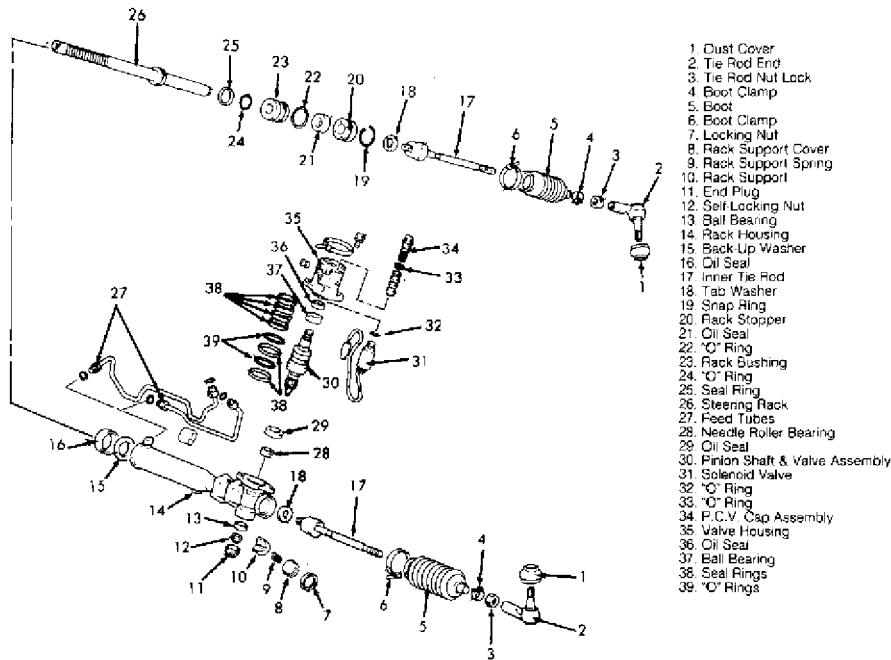

Fig. 5: Exploded View Of Electronic Power Rack & Pinion Assembly (Diamante & Galant With Electronic Power Steering)
1) Raise and support vehicle. Remove coupling bolt from pinion shaft joint. Remove hydraulic lines from steering gear. Drain fluid. On Galant with electronic power steering, disconnect solenoid valve connector. See Fig. 5.
NOTE: Some Diamante and Galant models are equipped with Electronic Power Steering. For exploded view of electronic power rack and pinion assembly, see Fig. 5.